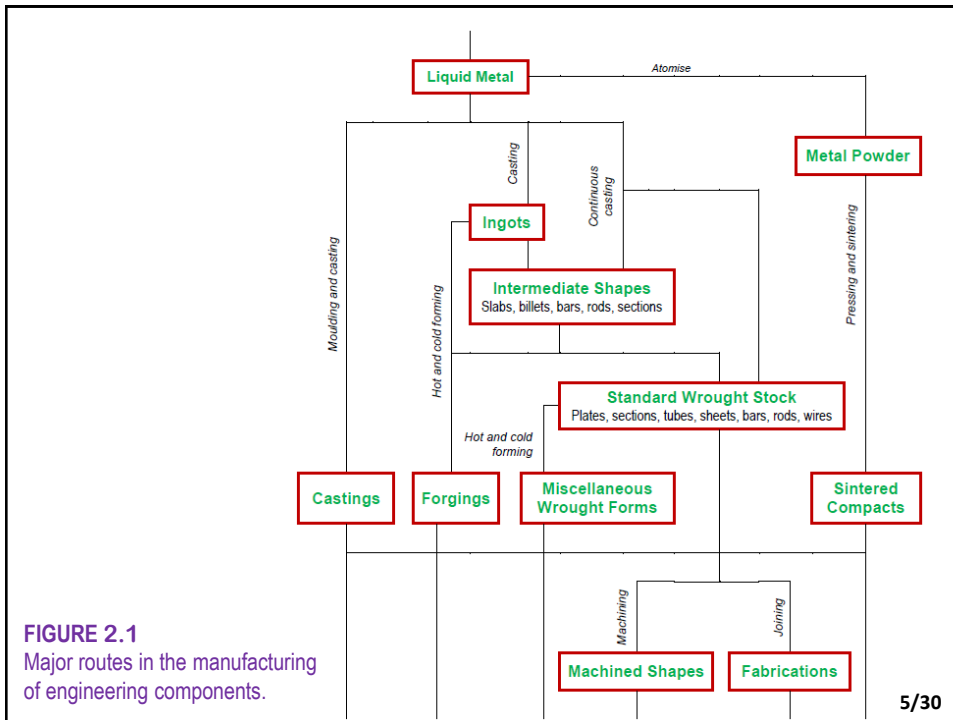

FIGURE 2.1
- Amongst the manufacturing processes described earlier (Lecture **A:01**) to produce engineering components, only a few of them are used to impart shapes to metals and alloys (**Fig. 2.1**).
- Most of the methods of shaping finished product shown in **Fig. 2.1** involved several steps.